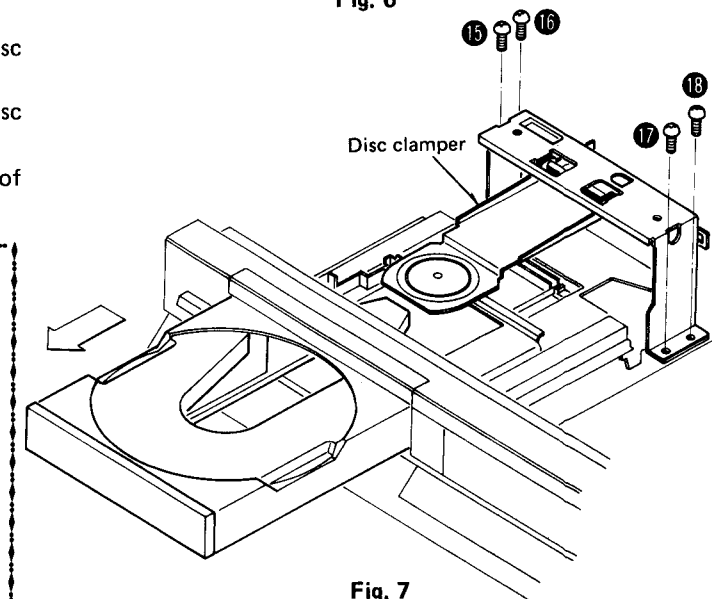

Fig. 7
3. Remove the 4 setscrews [Fig. 7 : ⑮ ~ ⑰] of the disc clamber, then the disc clamber can be removed.